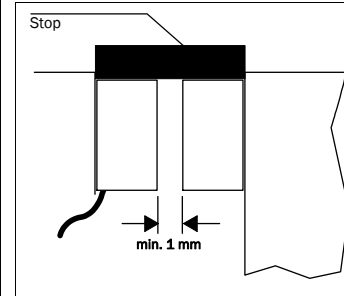

Fig. 5: Mounting example for safety switch and actuator
- Fit safety switch and actuating element such that they do not touch each other: minimum distance between the front faces with the guard closed 1 mm (Fig. 5).
- Fit an additional stop and guide for the moving part of the protective device (Fig. 5).